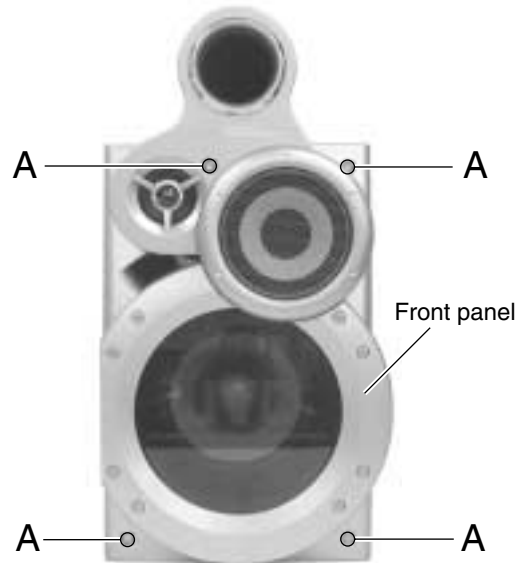

Fig.1
**■ Removing the front panel (See Fig.1)**